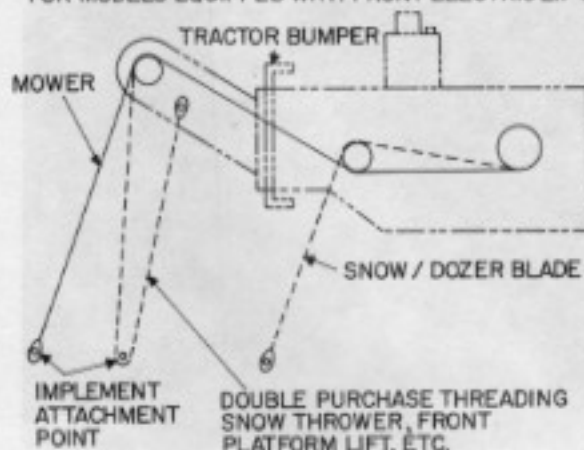

Fig. 1-23
9. Thread the lift strap as shown in Fig. 1-23 and remount the electric lift unit to the tractor.